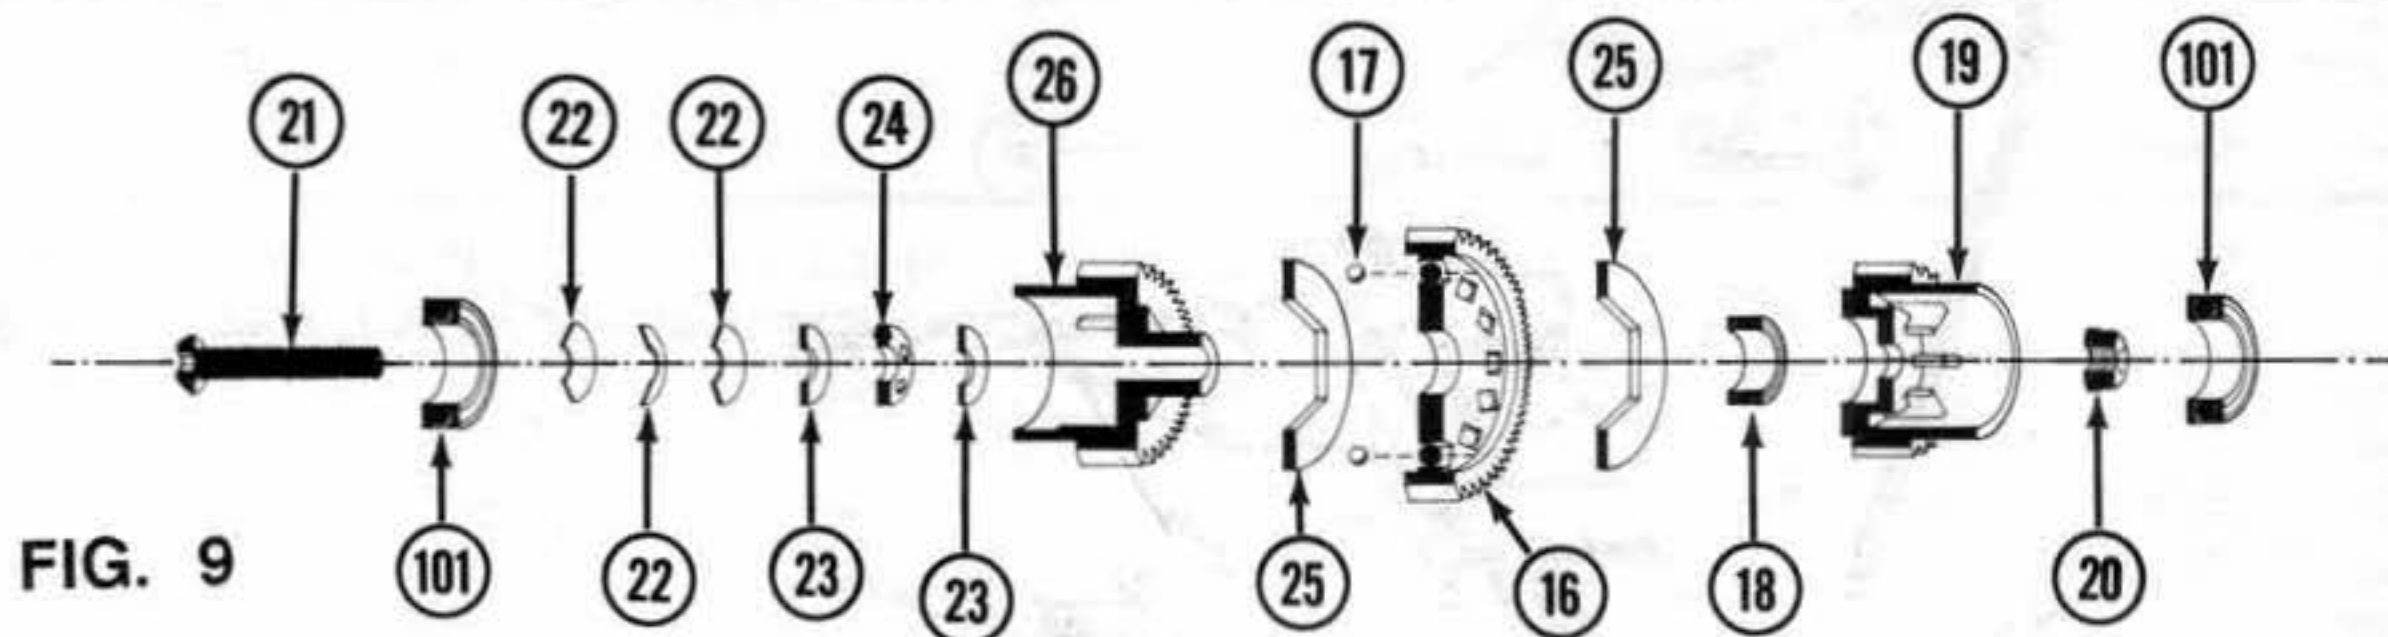

FIG. 9
6. Insert 1/4" X 3/8" bearing (18) into female half of differential (19). Fig.9
7. Insert locknut (20) into opposite side of female differential half (19). Fig.9
8. Locate 5-40 X 3/4" button head screw (21) and build thrust assembly in the following order: Fig.9
a. slide three opposing bellville washers (22) on screw.
b. one small thrust washer (23)
c. one 5-ball thrust bearing (24)
d. one small thrust washer (23)
9. Place one hex thrust washer (25) on male half of differential (26). Fig.9
10. Place center differential gear on male half of differential (26) over hex thrust washer (25). Fig.9
11. Place one hex thrust washer (25) on female half of differential gear (19). Fig.9
12. Insert male half of differential gear (26) into bearing in female half of differential (19). Fig.9
13. Insert thrust washer screw assembly (from step 8) into male half of differential (26) and screw into female half slowly, rotating differential halves to properly seat parts. DO NOT OVERTIGHTEN AS DAMAGE TO THE THRUST ASSEMBLY CAN OCCUR. Fig.9
14. Insert a 5/16" x 1/2" bearing (101) into each end of differential assembly. Fig.9
3. Install two 8mm x 14mm bearings (29) into lower bearing seats of the left half of gearbox (28). Fig.9
4. Repeat steps 2 and 3 with the right side of gearbox (30).
12. Install differential assembly made in Fig. 9 in right half of gearbox (30). Locate on boss provided. Make sure the adjusting screw (21) in the differential assembly is facing outward so it accessible for adjusting. Fig.12